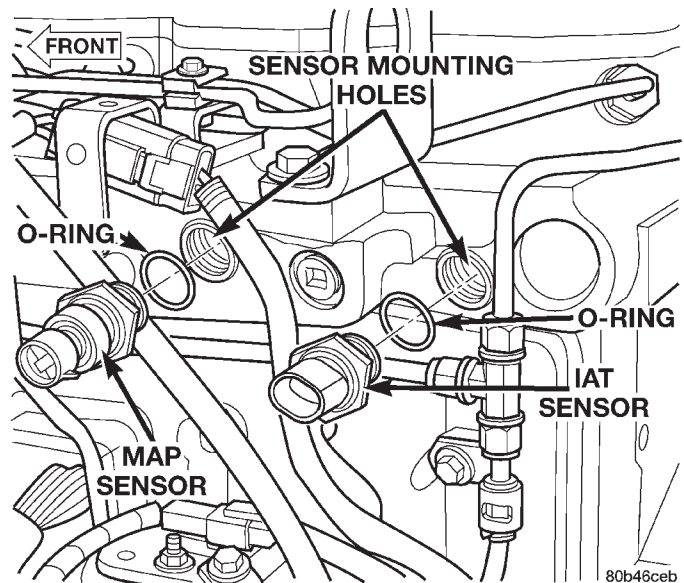

Fig. 38 MAP Sensor Removal/Installation
- (2) Remove MAP sensor from intake manifold (Fig. 38).
- (3) Discard sensor o-ring (Fig. 38).
- (1) Clean sensor mounting hole (Fig. 38) of rust or contaminants.
- (2) Install new o-ring to sensor. Apply clean engine oil to sensor o-ring and sensor threads.
- (3) Install MAP sensor into intake manifold. Tighten to 14 N·m (10 ft. lbs.) torque.
- (4) Connect sensor electrical connector.